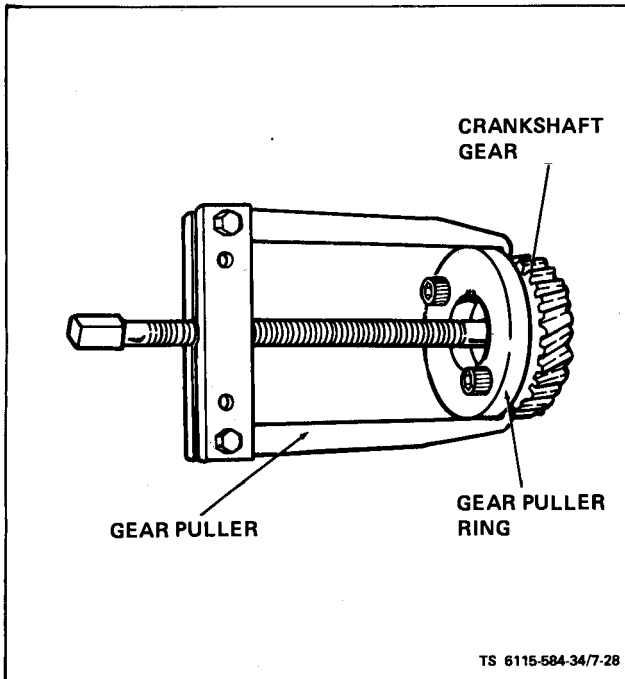

Figure 7-28. Crankshaft Gear Removal
(8) Refer to paragraph 7-10 and remove oil base.
(9) Refer to paragraph 7-11 and remove oil pump assembly.
(10) Remove lock ring (14) and retaining washer (15) in front of crankshaft gear (16).
(11) Pull off crankshaft gear. It has 2-1/4-20 UNC tapped holes for attaching a gear pulling ring (see figure 7-28). Use care not to damage teeth if gear is to be re-used. Remove woodruff keys (25, figure 7-15).
(12) Refer to paragraph 7-10 and remove connecting rod and piston assemblies.